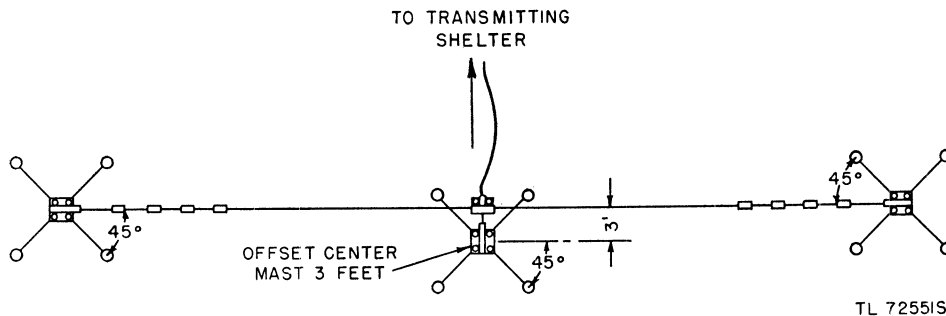

Figure 34. Lay-out of doublet antenna.
d. After the antenna wire has been made up, determine the position of the antenna to be erected. Remember that only when the antenna is used at its fundamental length with regard to frequency will the radiation pattern be broadside. A compass is provided for accurate determination of antenna orientation. Stretch the cut antenna wire along the ground in the desired position. Locate the end masts several feet beyond the end insulators. The center mast should be at the coaxial cable connector, offset 3 feet from the line between the two end masts (fig. 34), so that the antenna will clear the center mast. Locate the center mast within 30 feet of the shelter to allow for connection of RF Cable Assembly CG-557/U which is 75 feet long. A center mast may not be required if the